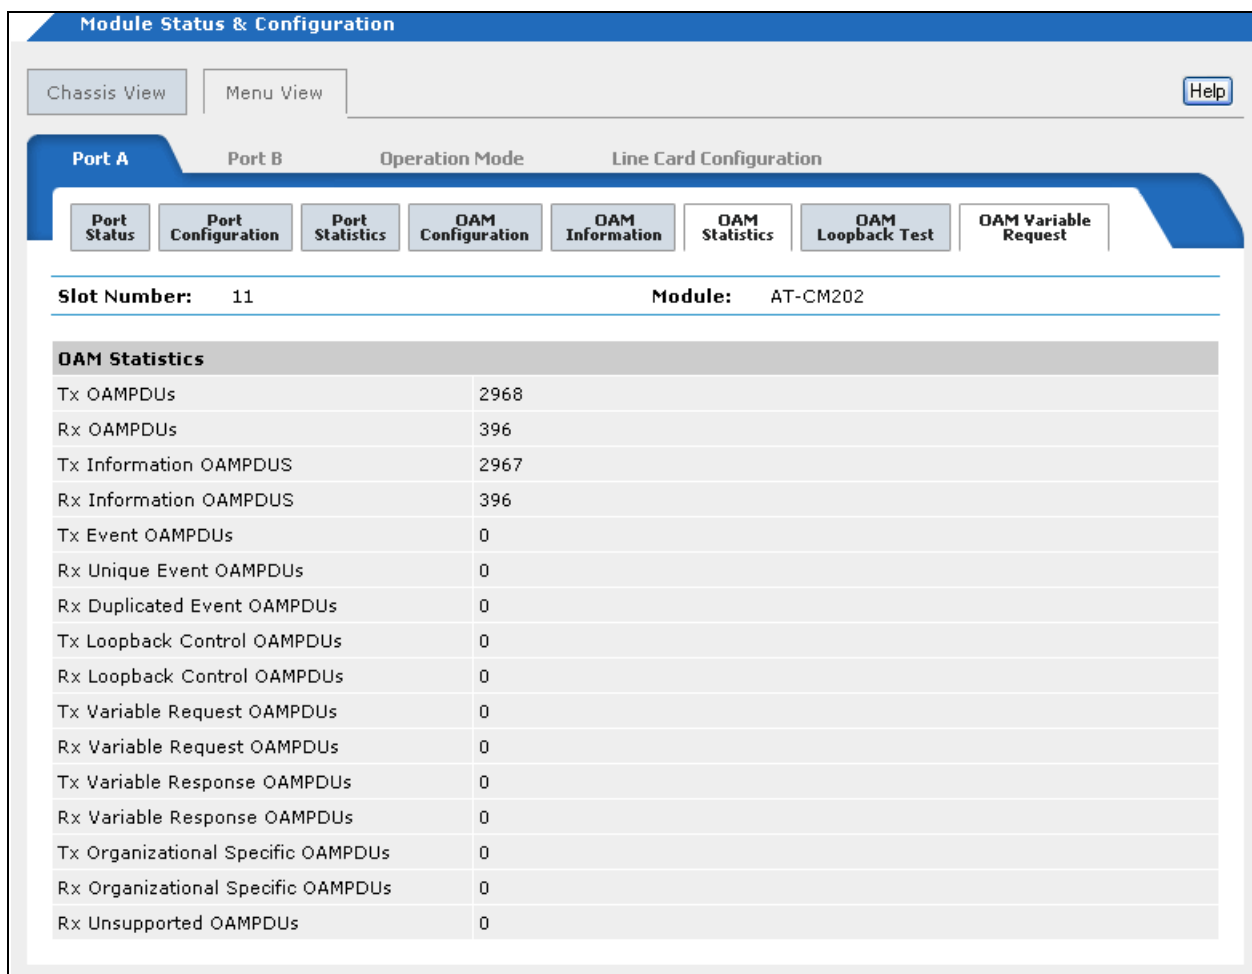

Figure 101. OAM Statistics Tab\*
4. Click the **OAM Statistics** tab to display the window in Figure 101.